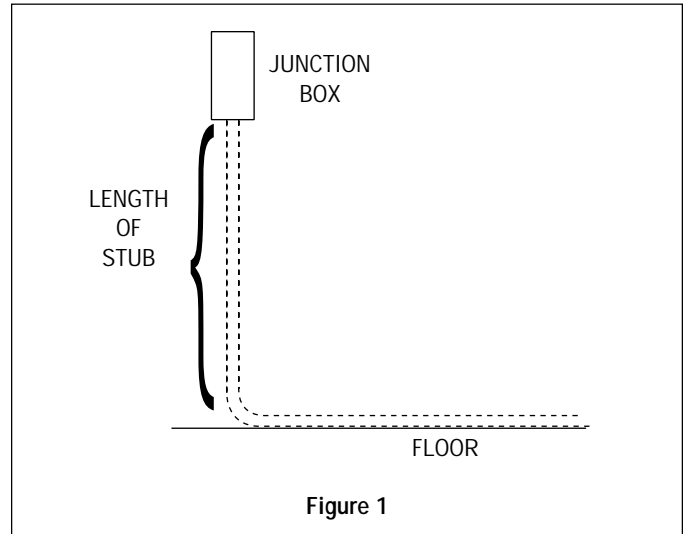

Figure 1
1. Measure the length of the required stub. See Figure 1.